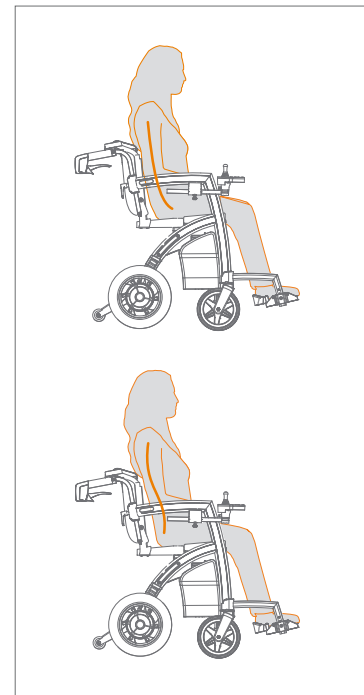

Figure 49: Before (top) and after (bottom) adjusting the back straps to the correct position.
f. Check if the user is comfortably in a correct sitting position (**Figure 49**).